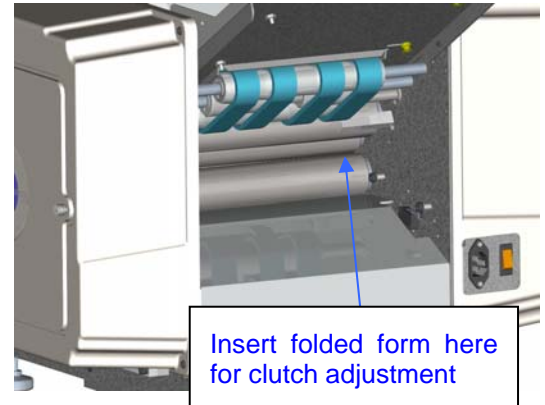

Figure 8: Back of the Machine
3. Test the adjustment by running a 1 2/3 folded form (See Figure 7) through the back of the machine while it runs at full speed (See Figure 8).